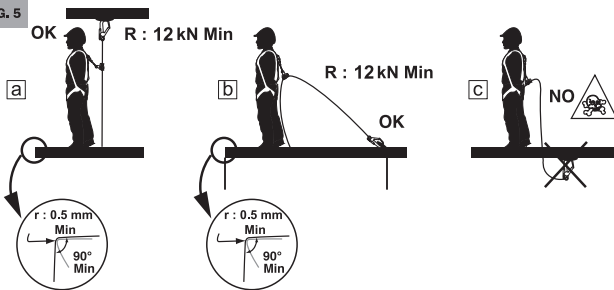

FIG. 6.1
21. stopfor™ fall arresters must be used on a vertical anchorage system or with a maximum angle of 30° or a maximum displacement of 3 m with respect to the vertical (see fig. 6.2). They can be used in a horizontal position to work on a flat roof, deviating no more than 1.50 m from the perpendicular to the edge (see fig. 6.1).
- To reduce the risk of pendulum effect, the operator's movement is limited to a maximum lateral movement distance perpendicular to the edge of 1.50 m max. (See fig. 6.1). For any other application exceeding 1.50m, a class C or D anchor according to EN 795:2012 must be used.